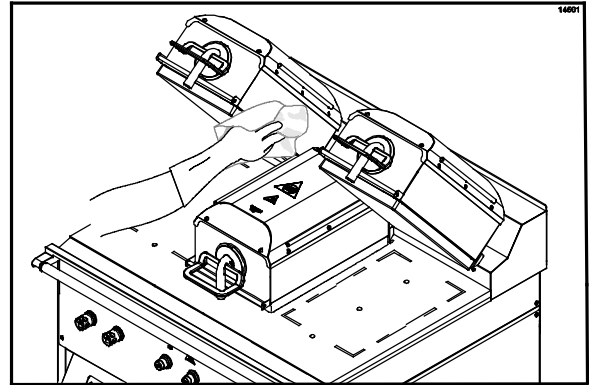

Figure 62
35. Rinse the inner edges of the right and left platens with a clean, sanitizer-soaked grill cloth. (See Figure 62.)